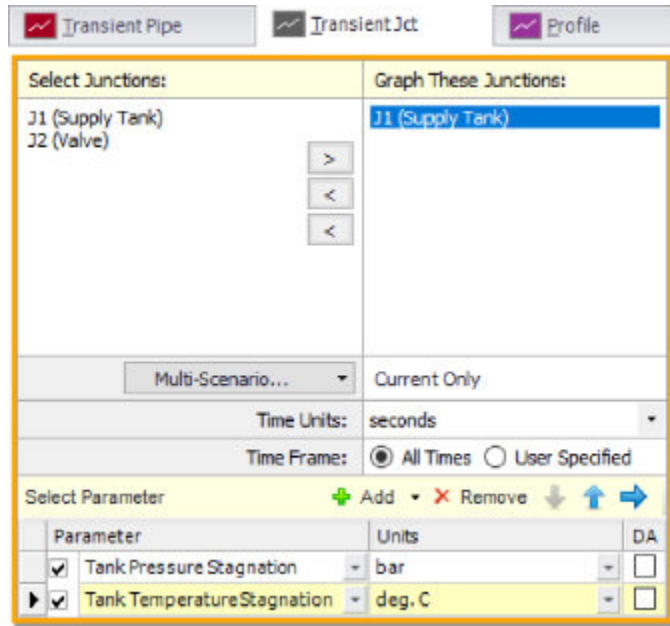

Figure 2.30 Graph Parameters window for the Transient Junction graph
- ▶ **Click the Transient Jet tab** on the Graph Control tab of the Quick Access Panel (Figure 2.30). Add the J1 (Supply Tank) junction.